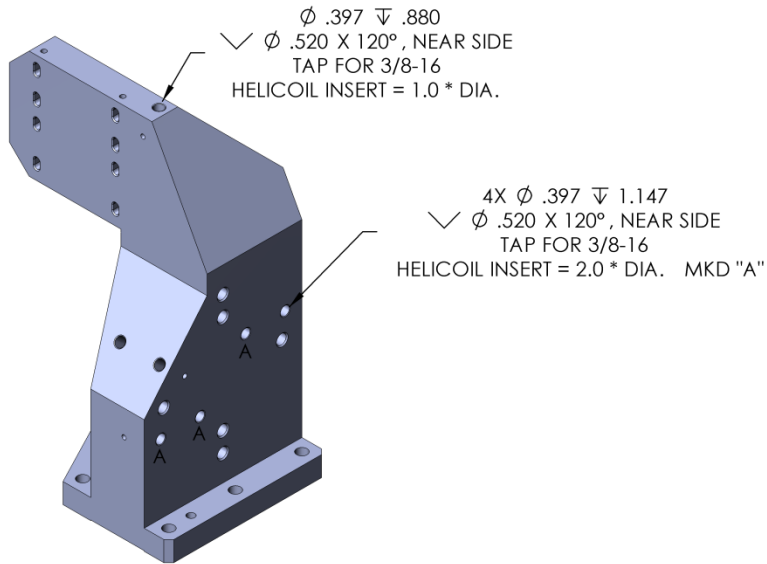

Figure 31
1. Apply Helicoils as shown Figure 31.